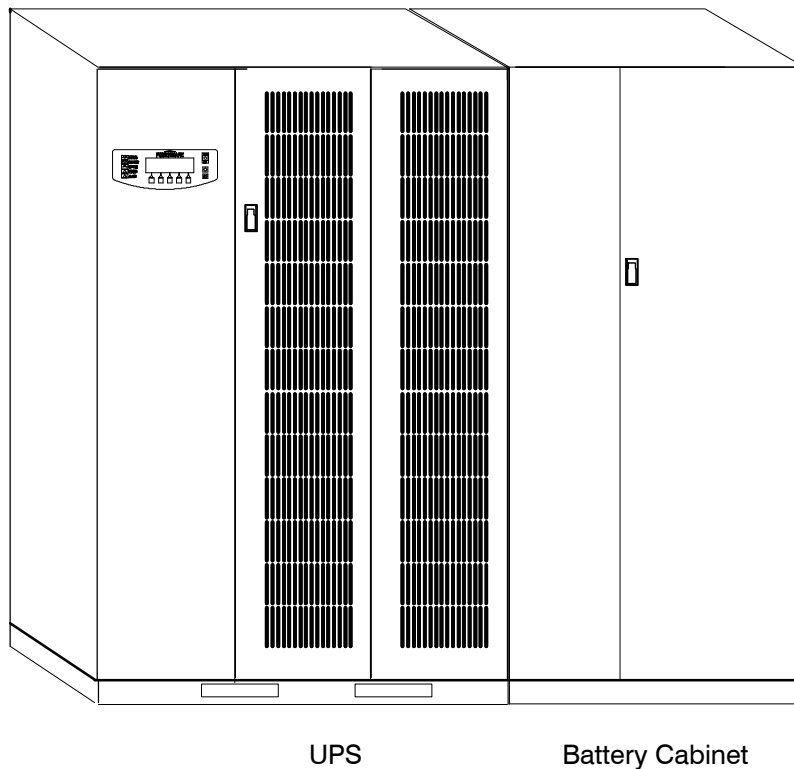

Figure 2. UPS with Lineup and Match Battery Cabinet
- The UPS and one or more battery cabinets in an integral configuration (see Figure 2).
Refer only to the parts of this manual that apply specifically to your system configuration. See Figures 2 and 3 to determine where to find your system installation instructions in this manual.